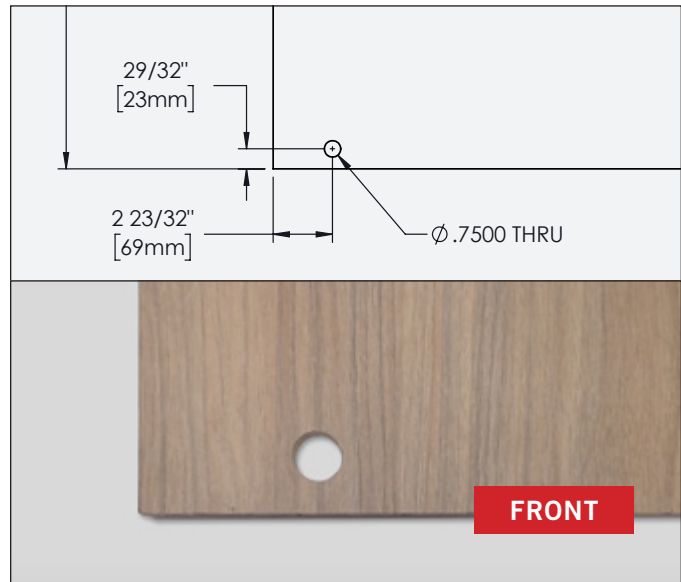

FIG. 2. Panel front. Lock assembly hole position. Rotate 180° for left-hinged units.
2. Carefully create the lock bracket notch and the countersunk lock assembly hole in the overlay panel. See figs. 2 and 3.